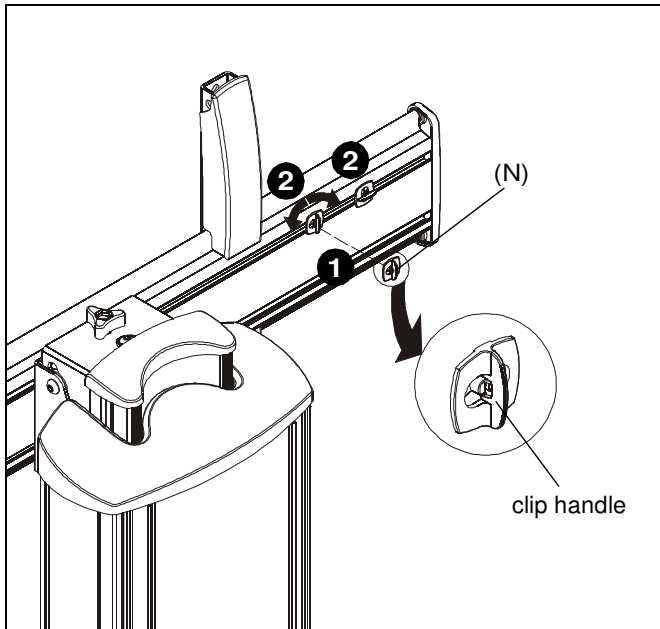

Figure 10
1. Place FCA clip (N) into groove on back of Fusion mount with clip handle in a vertical position. (See Figure 10)
2. Rotate FCA clip (N) 90° in either direction until clip handle is in a horizontal position. (See Figure 10)